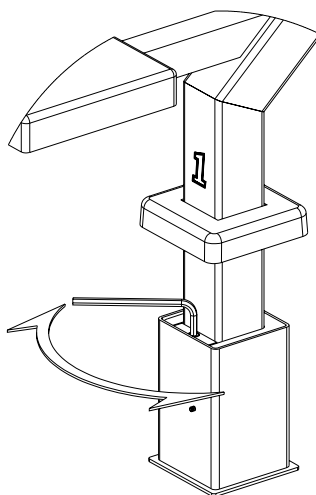

FIGURE 10
1. Loosen bolt using a ¼" ALLEN wrench, turning wrench in a counter-clockwise direction as seen from looking down. See **FIGURE 10**.